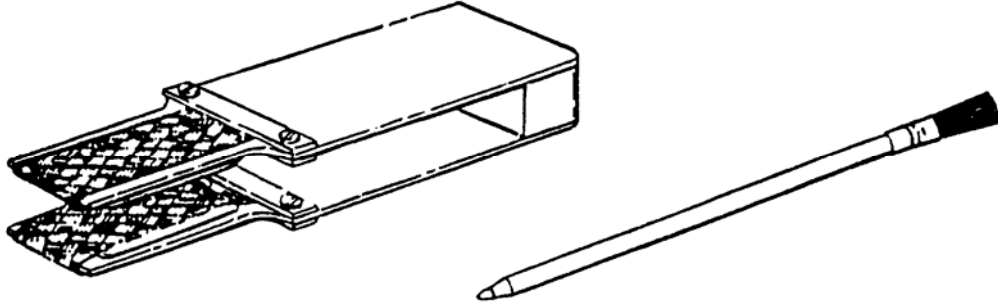

Figure A-8. Lead Cleaning Tools
(6) A typical lead-cleaning tool (Figure A-8) is composed of 1/2-inch of tinned copper shielding braid mounted in a spring-type holder. The lead to be cleaned is clamped between the braided copper and moved back and forth. The copper will remove any oxidation and dirt particles from the lead. A typewriter-ink eraser with a 1/2-inch slit in one end is normally used to clean terminals and other areas. The eraser material contains ground abrasive pumice.